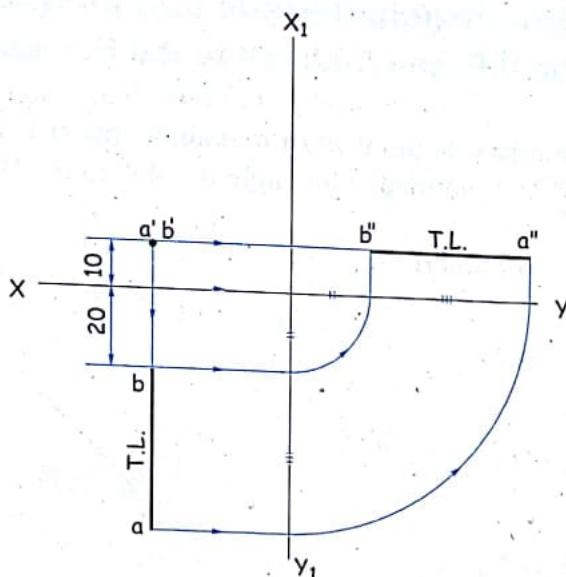

FIG. 8.4 (c)
1. The end points A and B of line AB are projected on the V.P., the H.P. and the P.P. giving the projections F.V. ($a'b'$), T.V. (ab) and S.V. ($a''b''$) as shown in figure 8.4 (a).